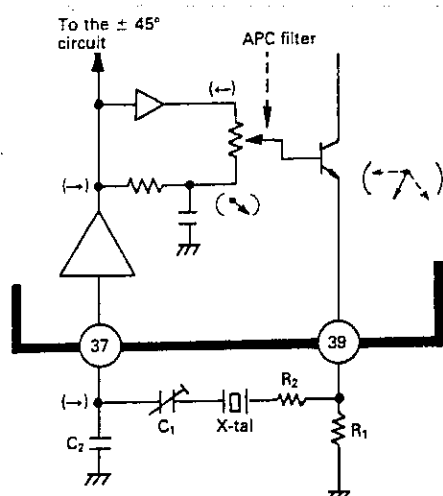

Figure 35.
As shown in Fig. 35, the VCO circuit is composed of the amplifier and phase composition circuit, both located between pin ② and pin ③, and the externally connected